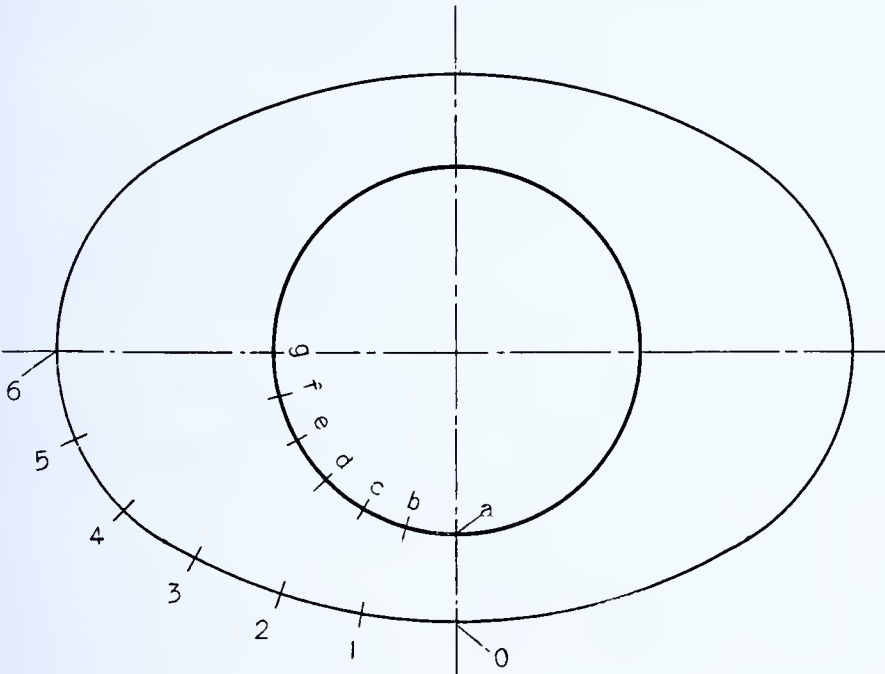

FIG. 322 — *Divisions on Curves*
2. Divide the circle into twenty-four parts. See Fig. 322. Leave the dividers set for future use.
4. Number the divisions on the circle from *a* to *g* as shown in Fig. 322.
5. Number the divisions on the oval from 0 to 6 as shown in Fig. 322.